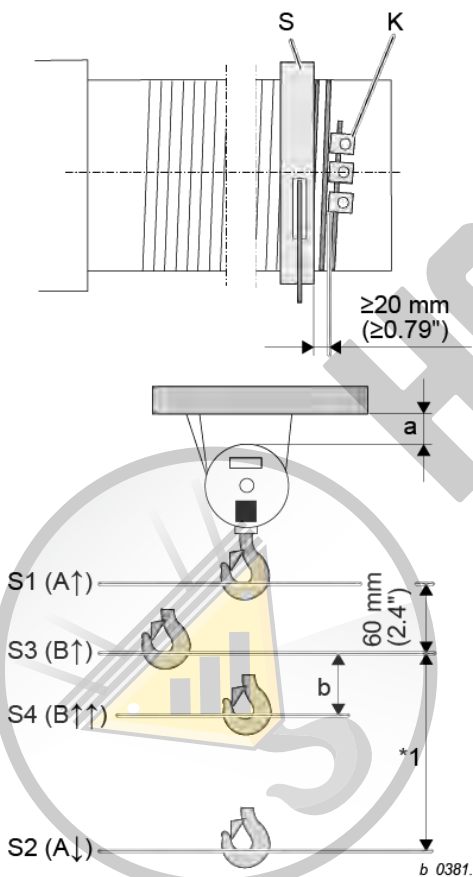

Fig. 81
4. YK/SK model: lower bottom hook block by "**b**" (Fig. 81, Tab. 35+Tab. 36).
(Minimum clearance between rope guide (S) and clamping claws (K) for rope attachment = 0.79 in., see Fig. 81 (for the rope fastening))